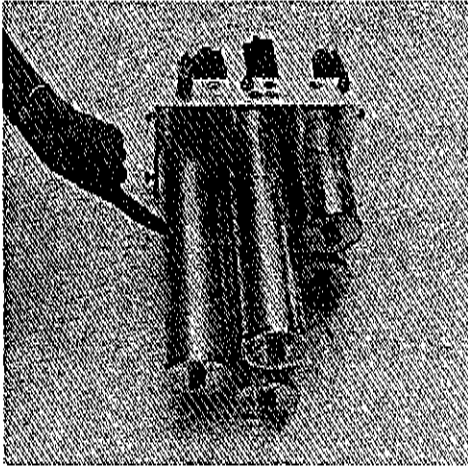
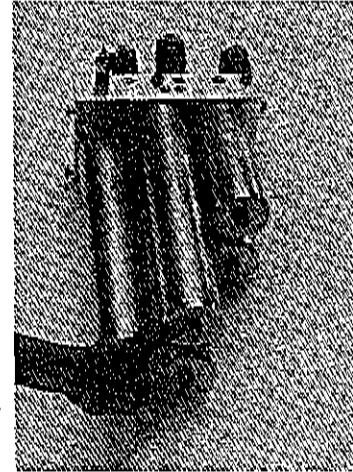
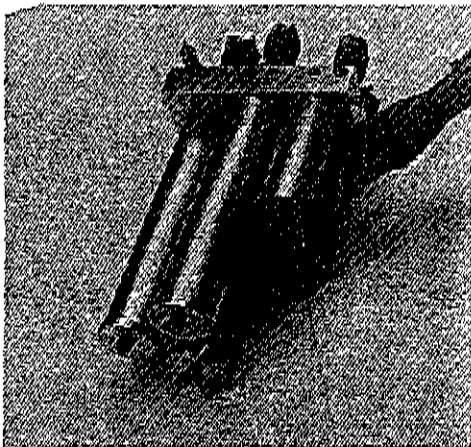

Fig 7
Fig 8
Fig 9
- The oil filter (fig 7), drying medium refrigerant (fig 8), drying medium air (fig 9) have to be changed every 500 hours.